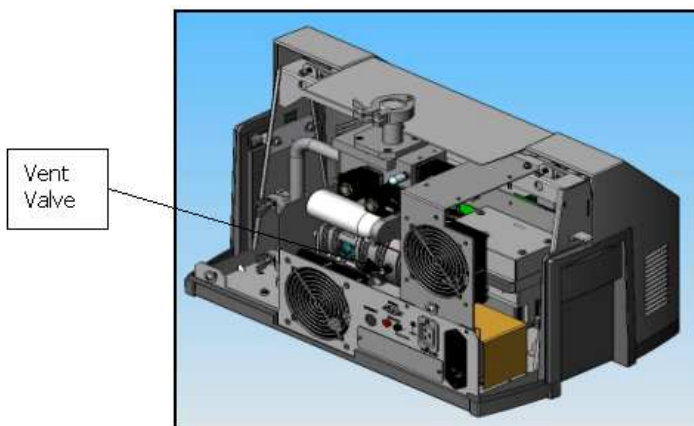

Figure 13: Vent Valve
29. Ensure that the vent valve on the turbo molecular pump (if installed) is tightened (Figure 13: Vent Valve).